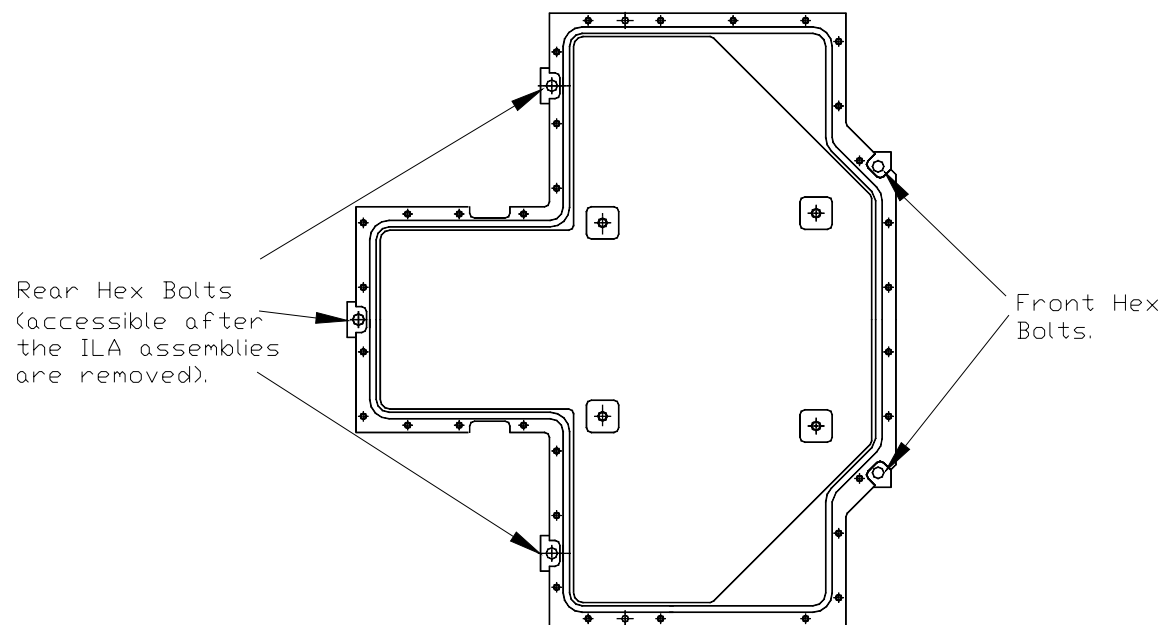

Figure 4-15. Prism Assembly mount.
8. Remove the 2 hex bolts from the front of the Prism assembly (see Figure 4-15).
12. Remove the remaining three hex bolts from the rear of the Prism assembly. These screws are located in the cavities where the **ILA**[®] assemblies were removed (see Figure 4-15).